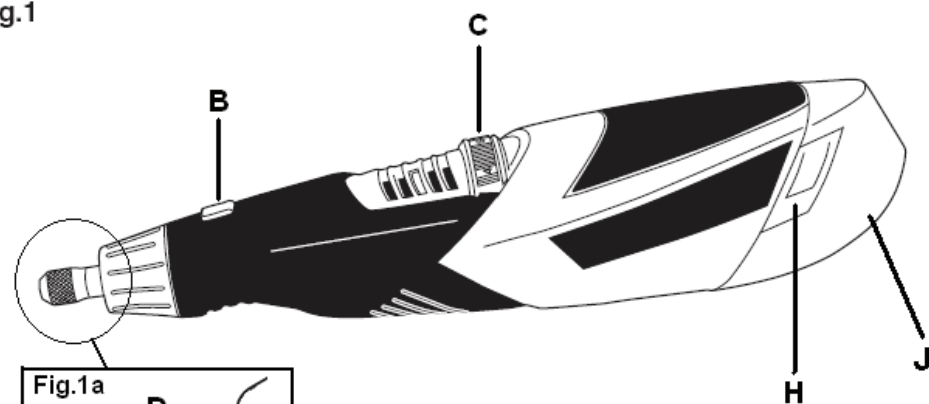

Fig.1a
- A Locking nut (Fig. 1a and 4)
- D Clamp (Fig.1a and 4)